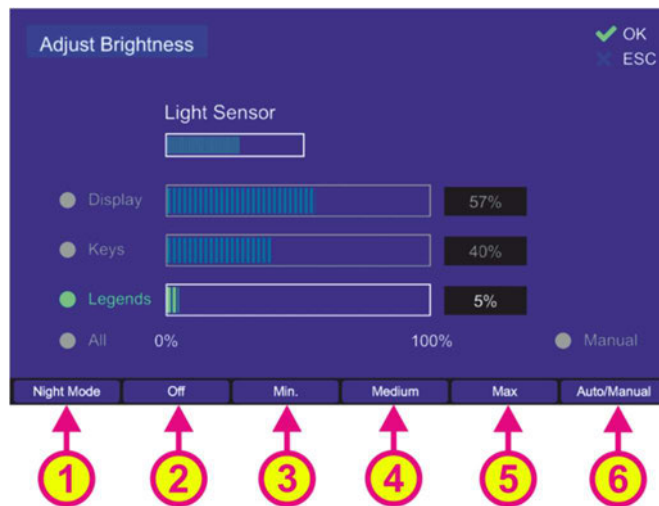

Figure 187 "Adjust Brightness Dialog"
- Use the hotkey “Night Mode” (s. Figure 187, number 1) to switch over to the night mode manually.
- The hotkey “Off” (s. Figure 187, number 2) is only available if “Legends” is selected. Pressing this hotkey deactivates the illumination of the legends.
- Use the hotkey “Min.” (s. Figure 187, position 3), “Medium” (s. Figure 187, position 4) and “Max.” (s. Figure 187, position 5) in order to set the appropriate luminosity quickly.
- Use the hotkey “Auto/Manual” (s. Figure 187, position 6) in order to set the automatic or manual brightness adjustment mode. The currently selected adjustment mode is indicated above this hotkey. In the “Auto” mode the luminosity of items will be adjusted automatically based on the light-sensor value.